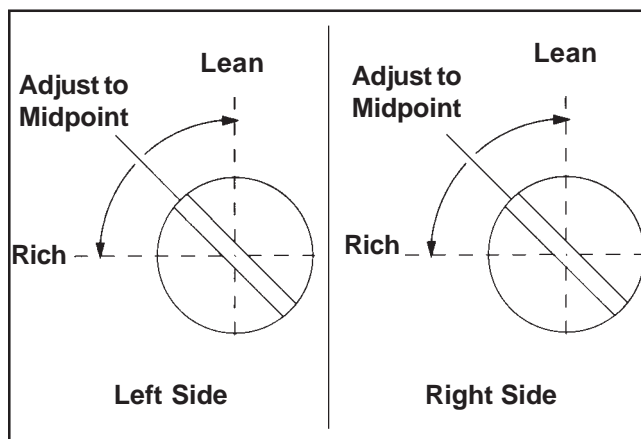

Figure 23. Optimum Low Idle Fuel Settings.
- a. Turn one of the low idle fuel adjusting needles out (counterclockwise) from the preliminary setting until the engine speed decreases (rich). Note the position of the needle. Now turn the adjusting needle in (clockwise). The engine speed may increase, then it will decrease as the needle is turned in (lean). Note the position of the needle. Set the adjusting needle midway between the rich and lean settings. See Figure 23.